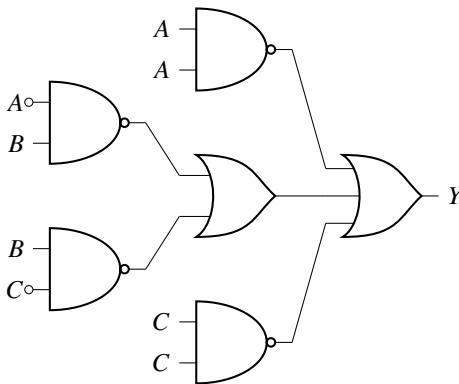

Fig. 3.4
11. Obtain the Boolean Expression for the logic circuit shown below in Fig. 3.4.